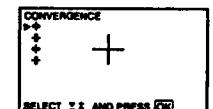

Fig. 3
③ Converge the red, green and blue lines
- 1 Select "CONVERGENCE" with Δ + or ∇ – and press OK. The CONVERGENCE menu appears. (See Fig. 3.)